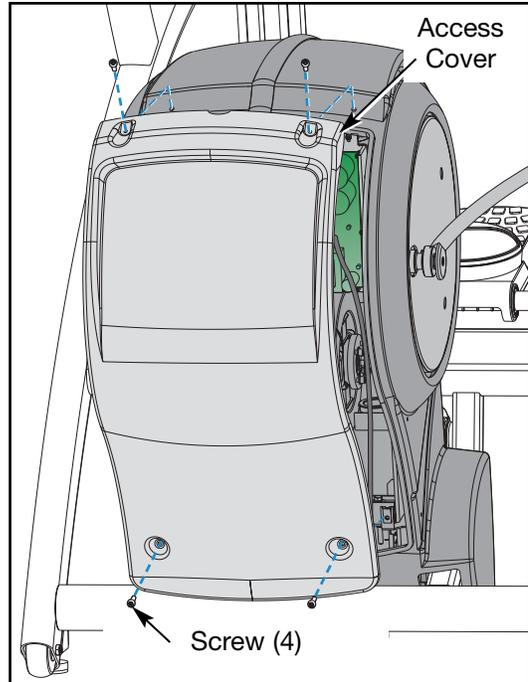

Figure 2
- A. Turn the main power switch above the power inlet to the off (O) position.
- A. Using a Phillips head screwdriver, remove the four screws securing the access cover in place. See Figure 2.